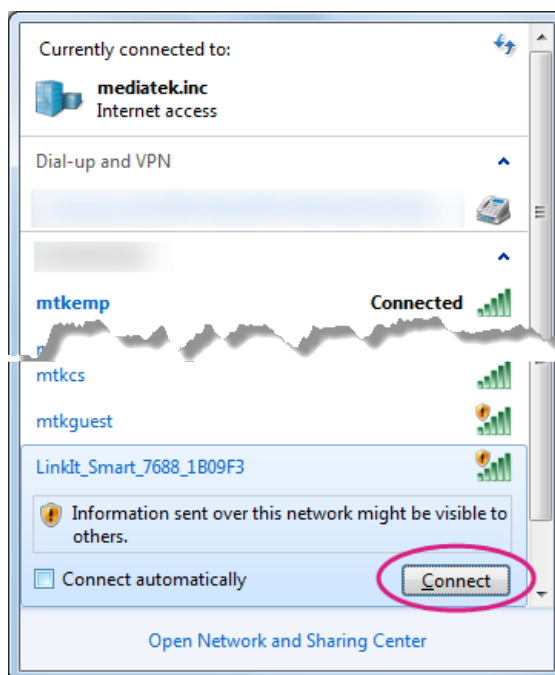

Figure 16 Connecting to LinkIt Smart 7688 AP
- Open the Wi-Fi connection utility on your computer and connect to the access point named LinkIt_Smart_7688_1B09F3 (1B09F3 is the MAC address and yours could be different), as shown in Figure 16.